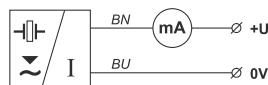

Fig. 25: Connection diagram of the CPC-U-53 level meter (variant -I)
The CPC-U-53 level meter or CPK-U-53 sensor with a B or H type cable gland are connected to processing (display) units by means of a fixed PVC cable 5 m long. PG 11 (B) or plastic bushings with a thread for protective hoses (H) can be used as a cable gland. Connection diagrams are shown in Fig. 25, 26, 27, 28 and 29.